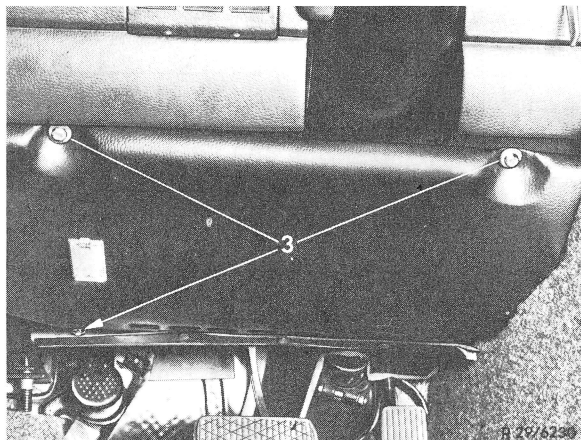

Fig. 4
5 Unscrew cover underneath instrument panel in legroom (3) and pull downwards. Push out legroom light (4), remove plug and pull cable from cover (Fig. 4 and 5).
12 Introduce legroom cover and screw down (Fig. 4).